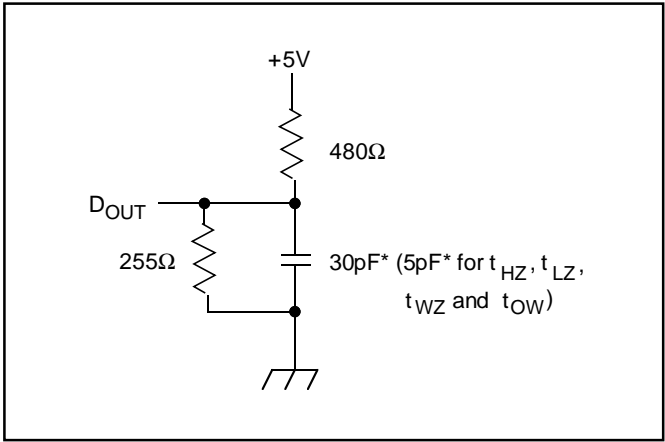

Figure 1. Output Load
7. Transition is measured  $\pm 200\text{mV}$  from steady state voltage prior to change with specified loading in Figure 1. This parameter is sampled and not 100% tested.
12. Transition is measured  $\pm 200mV$  from steady state voltage prior to change with specified loading in Figure 1. This parameter is sampled and not 100% tested.
Output Load	See Figures 1 and 2